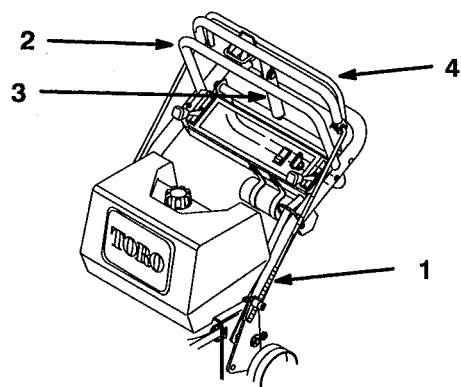

Figure 10
3. Check the gap between upper control bar and fixed bar with wheel drive fully engaged. Gap should be approximately 1 to 1-1/4 in. (25-32 mm) (Fig. 10).
5. Check parking brake adjustment. Brake rods should be adjusted so parking brake lever is snug when swung into position against the fixed bar while pulling back on upper control bar (Fig. 10).